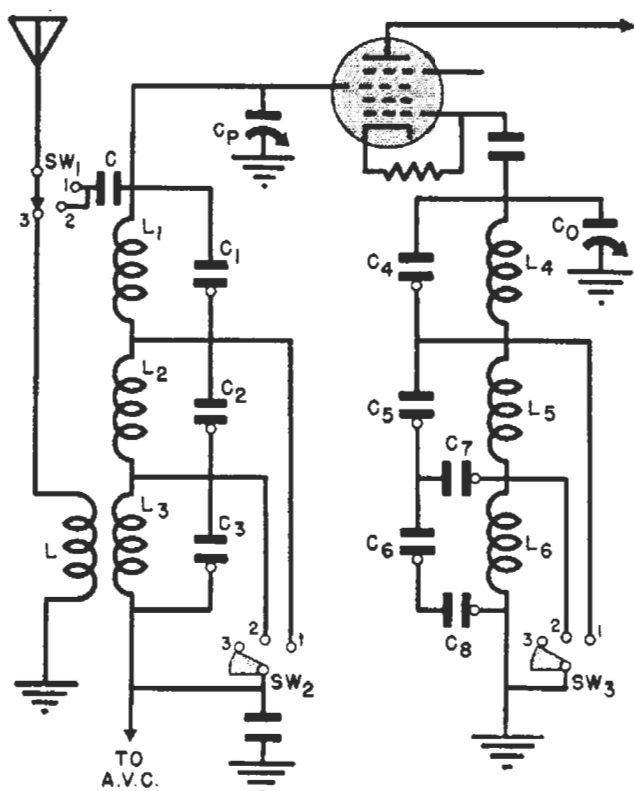

FIG. 8. The preselector-oscillator circuits of a receiver requiring cascade alignment.
**Cascade Alignment.** A number of manufacturers wind all preselector coils on one winding form and all oscillator coils on another coil form. This reduces costs but introduces a problem in alignment that you should recognize. Such a construction is used in the circuit shown in Fig. 8. Oscillator coils  $L_4$ ,  $L_5$  and  $L_8$  are all wound on one coil form; preselector coils,  $L_1$ ,  $L_2$ ,  $L_3$  and broadcast primary coil  $L$  are also wound on a single coil form.